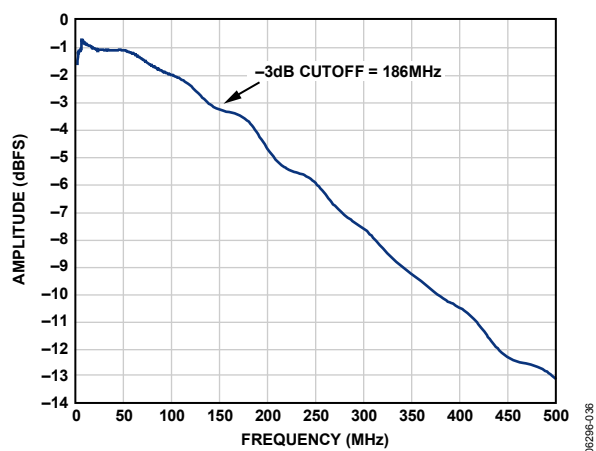

Figure 61. Evaluation Board Full Power Bandwidth
- **AIN:** The evaluation board is set up for a transformer-coupled analog input with optimum 50 Ω impedance matching out to 150 MHz (see Figure 61). For more bandwidth response, the differential capacitor across the analog inputs can be changed or removed. The common mode of the analog inputs is developed from the center tap of the transformer or AVDD_DUT/2.